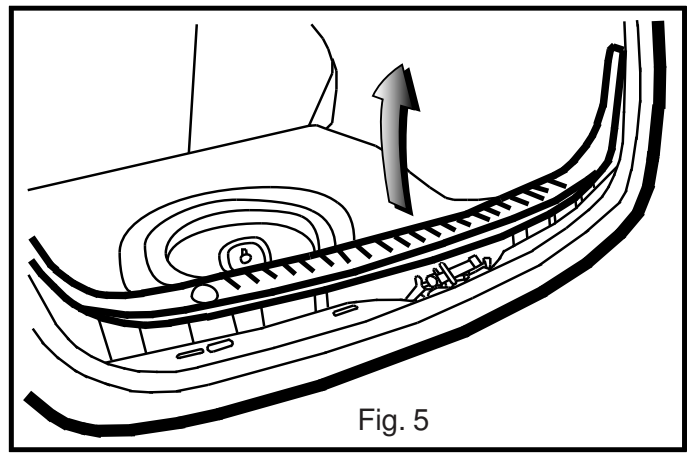

Fig. 5
7. Grasp the trunk sill plate and pull up to remove. (Fig. 5)